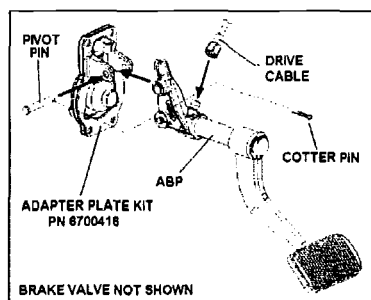

Figure 8
2. Place the ABP into the yoke of the brake valve adapter plate and insert the pivot pin (Fig. 8)